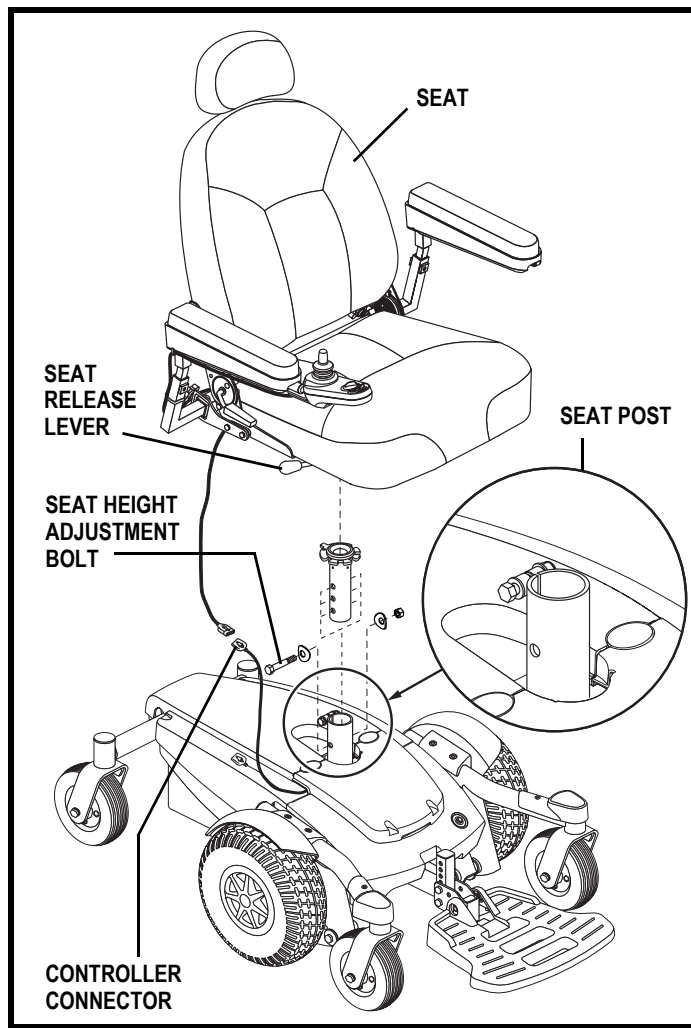

Figure 17. Seat Height Adjustment
3. Disconnect the controller connector from the power base. See figure 17.
4. Disengage the seat release lever. See figure 17.
6. Loosen the hardware at the rear of the seat post. See figure 17.
7. Remove the seat height adjustment bolt, washers, and nut from the seat post. See figure 17.